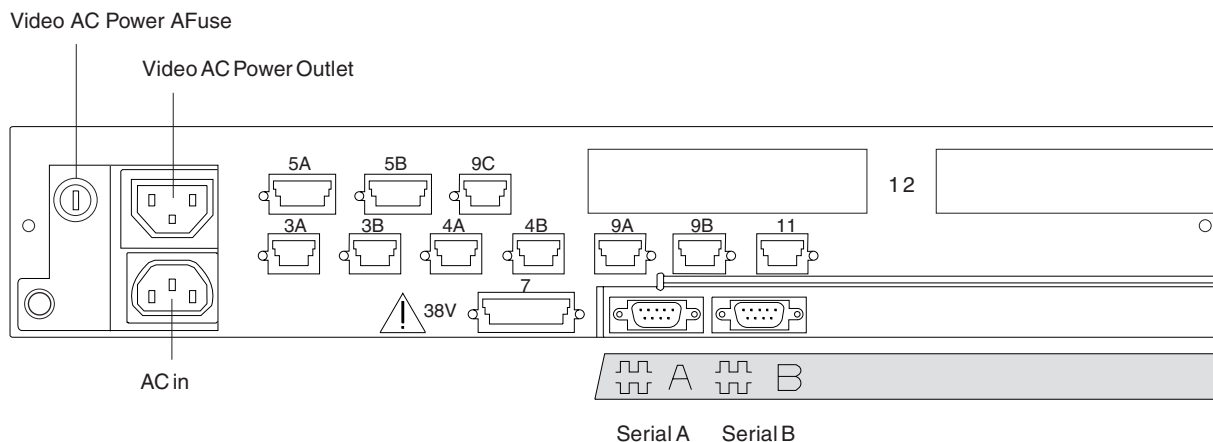

Figure 96. Rear of 4693-2x2 Point-of-Sale Terminal
5. Mark an X on Figure 96 on page 260 to indicate the sockets in which POS devices are connected.